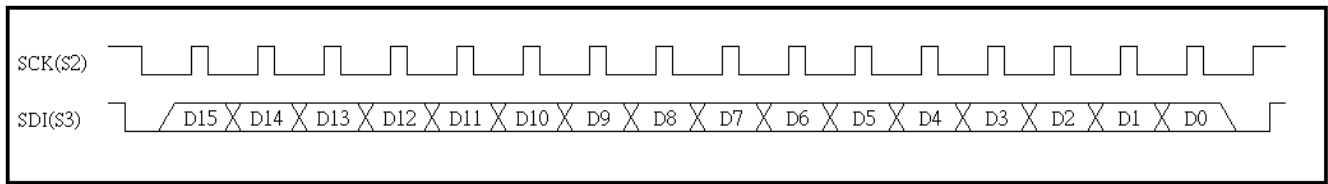

Fig.15 I2C Command timing
- a. Command timing reference Fig.15 I2C Command timing.